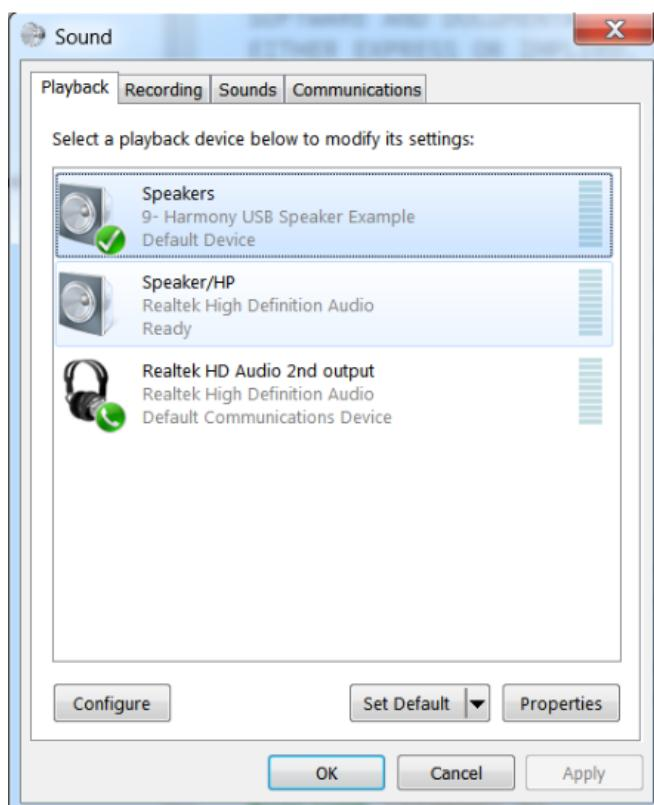

Figure 2. Windows 7 Sound Dialog showing USB Microphone with Sound Level Meter
- If needed, configure the Host computer to use the usb_speaker as the selected audio playback device. For Windows, this is done in the "Playback" tab in the "Sound" dialog (as shown in Figure 2) accessed by right clicking the loudspeaker icon in the taskbar.